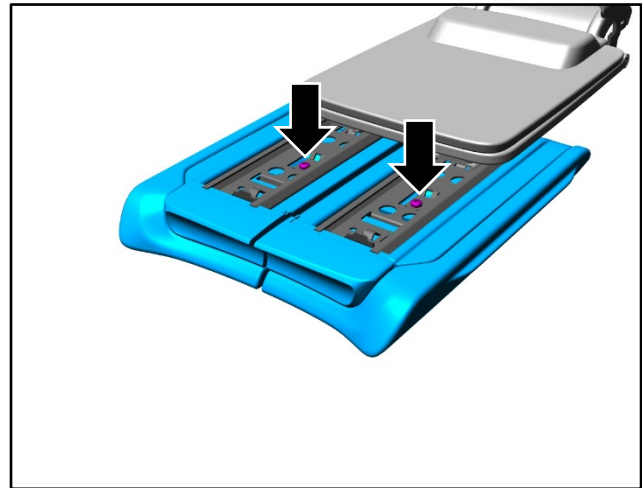

Figure 30
21. Install the centre console lid covers from the rails. Install the two bolts to install the centre console lid covers (refer to Figure 30).